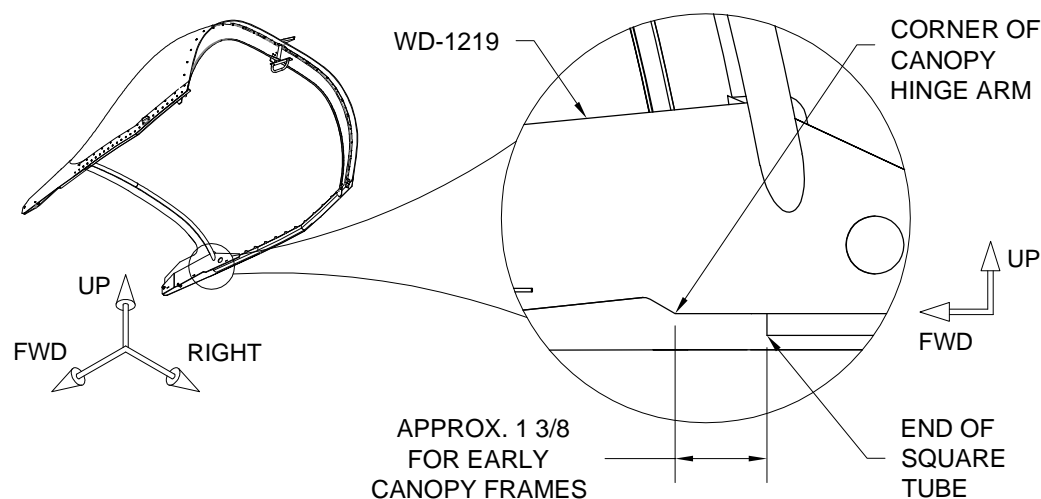

FIGURE 1: DETERMINE FRAME TYPE
Step 3: Cut-out the CANOPY LAY-UP TRIM TEMPLATE. (This is supplied full scale on a separate 24" X 36" drawing.) Using several small pieces of masking tape, align the template to the canopy and tape in place. Mark the trim line on the glass fabric lay-up using the template as a guide. (Page 34-14, Figure 1 also depicts the final-trim of the glass fabric lay-up.) Remove the template and use it to mark the opposite side of the canopy. Trim the glass fabric lay-up to the trim lines. Finish sand the trimmed edges.
Step 1: Measure the distance between the end of the frame's square tube and the corner of the canopy hinge arm as shown in Figure 1. If the measurement matches the call-out the frame is an early production frame.